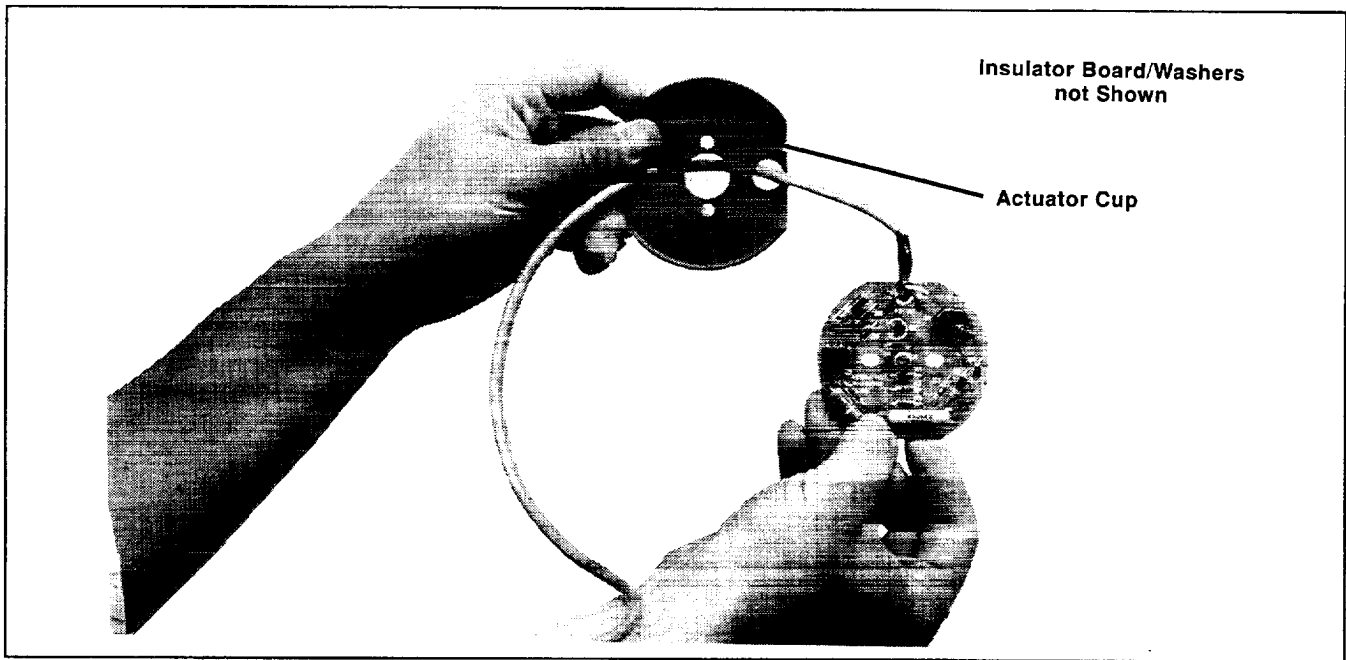

Figure 5. Installing Photo Transistor Board
13. Place photo transistor board lead through actuator cup as shown in Figure 5. Route the photo transistor board lead through hole in rotor shaft and then through exciter laminations to exit near the SCR Assembly.